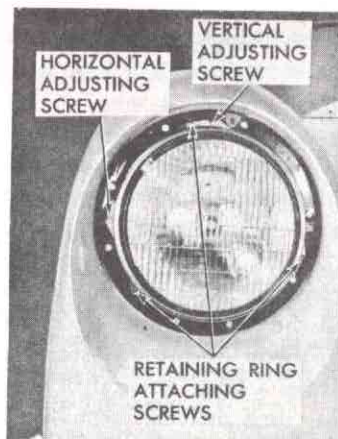

Fig. 76—Sealed Beam Installation
2. Remove the three screws holding the sealed beam retaining ring (fig. 76). Do not disturb the headlamp adjusting screws on top and left side of unit.
Two screws are provided for vertical and horizontal adjustment of the beam as shown (fig. 76). Turning the vertical adjusting screw "In" or "Out" will raise or lower the light beam, while turning the horizontal adjusting screw "In" or "Out" will move the light beam laterally to the right or left.